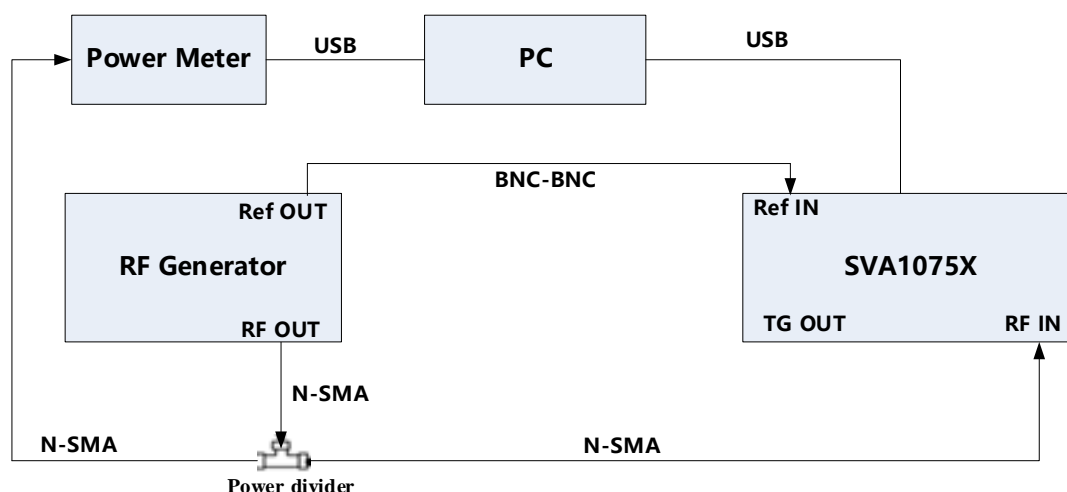

Figure 3-1 Absolute amplitude accuracy connections
1. Connect the spectrum analyzer, signal generator and power meter as in figure 3-1